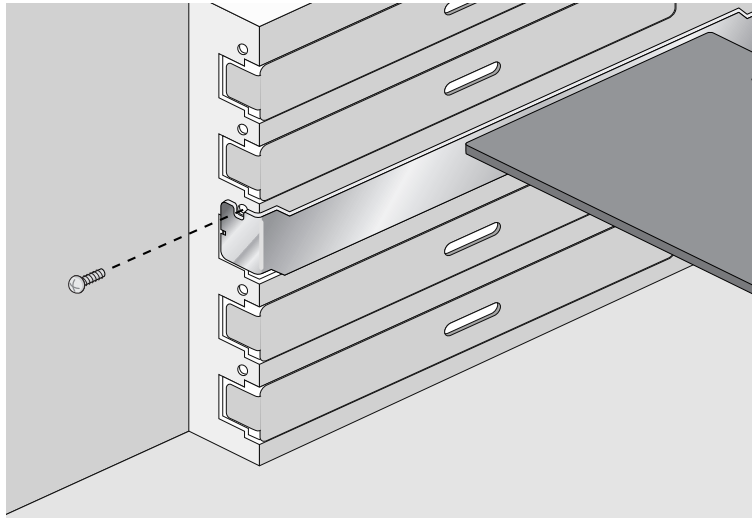

Figure 10. Securing the Adapter with a High-profile Bracket
6. Secure the network adapter card to the chassis with a Phillips-head screw (not provided). See Figure 10 on page 32.